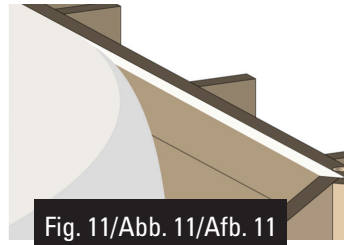

Fig. 11/Abb. 11/Afb. 11
- Unroll the blanket aligning it to the upper edge of the top boards (figure 11).